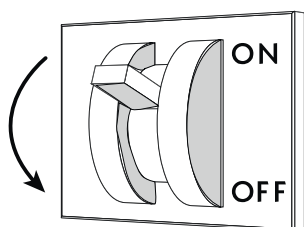

Fig. 58
- Disconnect the power supply to the cabinet using the wall-mounted main switch-disconnector ("Fig. 58").